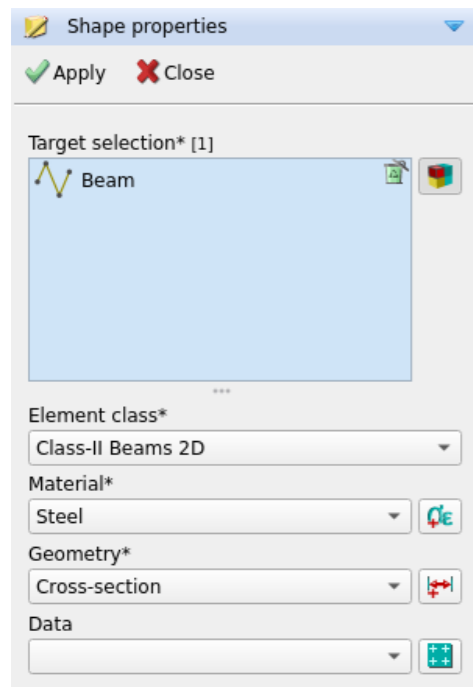

Figure 8: Property assignments
**Main menu** → Geometry → Assign → Shape properties  [Fig. 8]